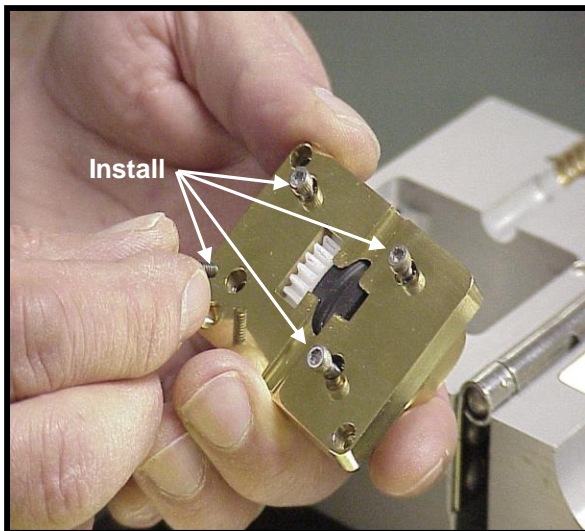

Figure 46
13.5.2.12 Replace the four (4) short machine screws to secure the Bearing Hanger Assembly to the Upper Brass Plate and lightly tighten. When properly assembled, the heads of the four (4) short machine screws will be flush with the Upper Brass Plate. **See Fig. 46.**